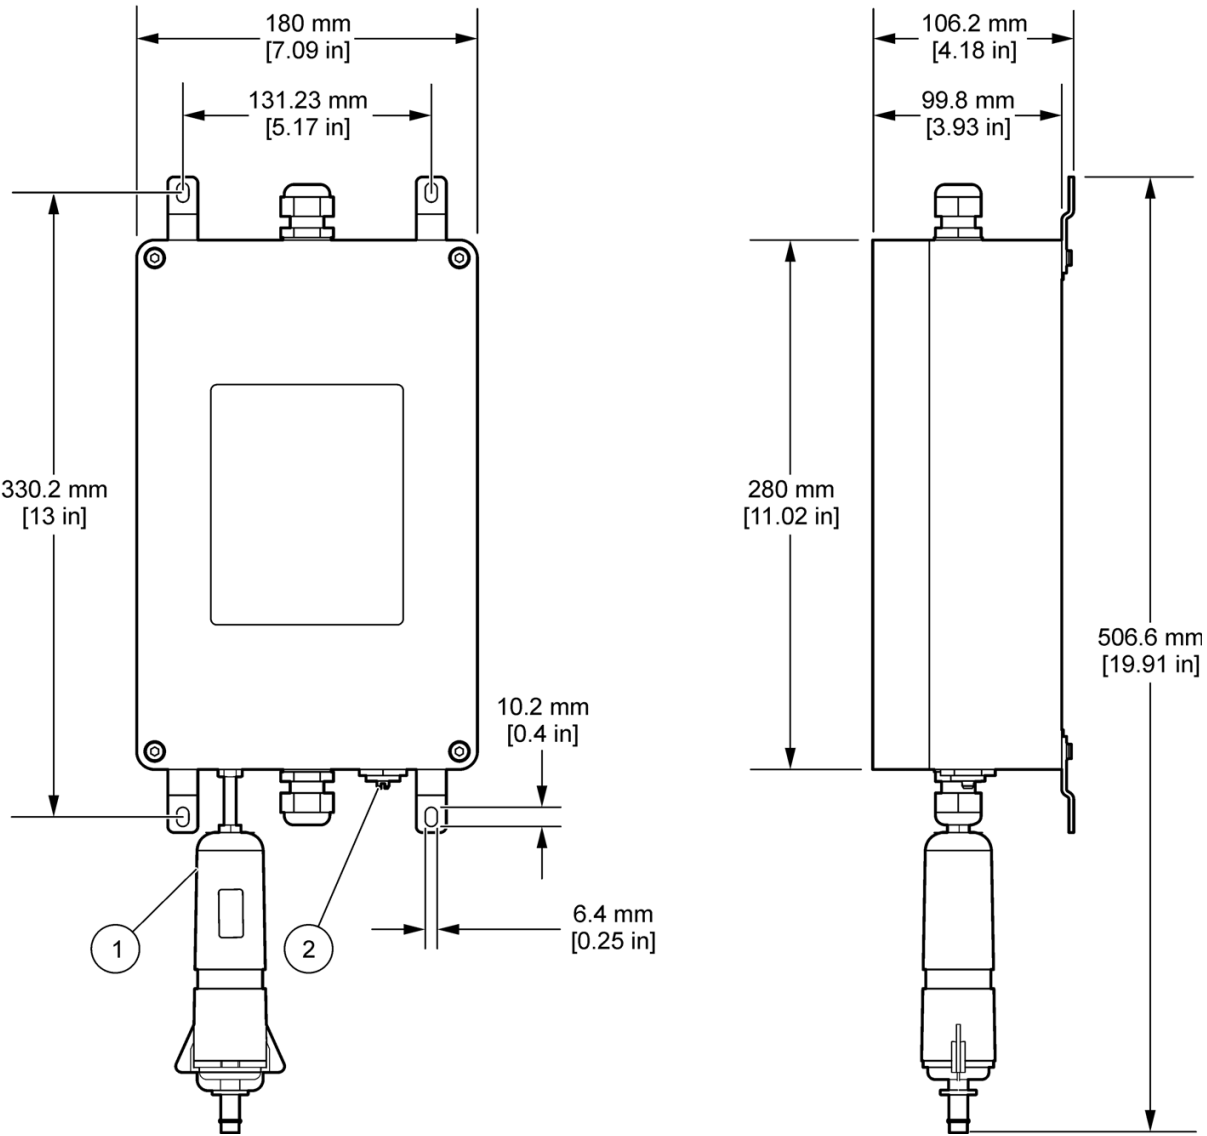

Figure 2 Barrier dimensions
1. Install the barrier on a wall in a non-hazardous environment (Figure 2 on page 12).
10. Connect a protective earth ground (PEG) to the ground stud on the barrier (Figure 2 on page 12) where local code or authorities permit or require such a connection. If required, use a copper wire that is AWG 9 or larger.